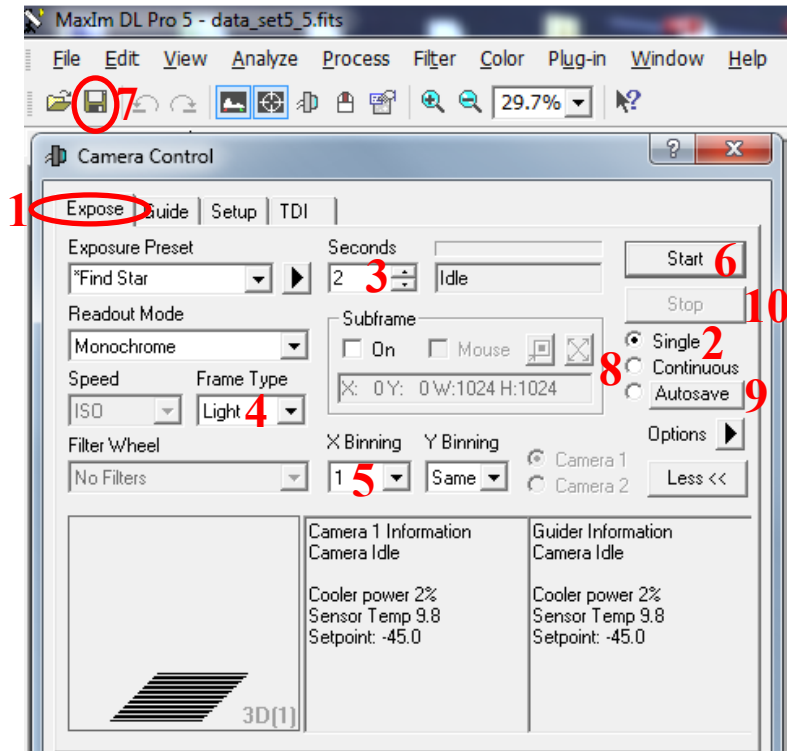
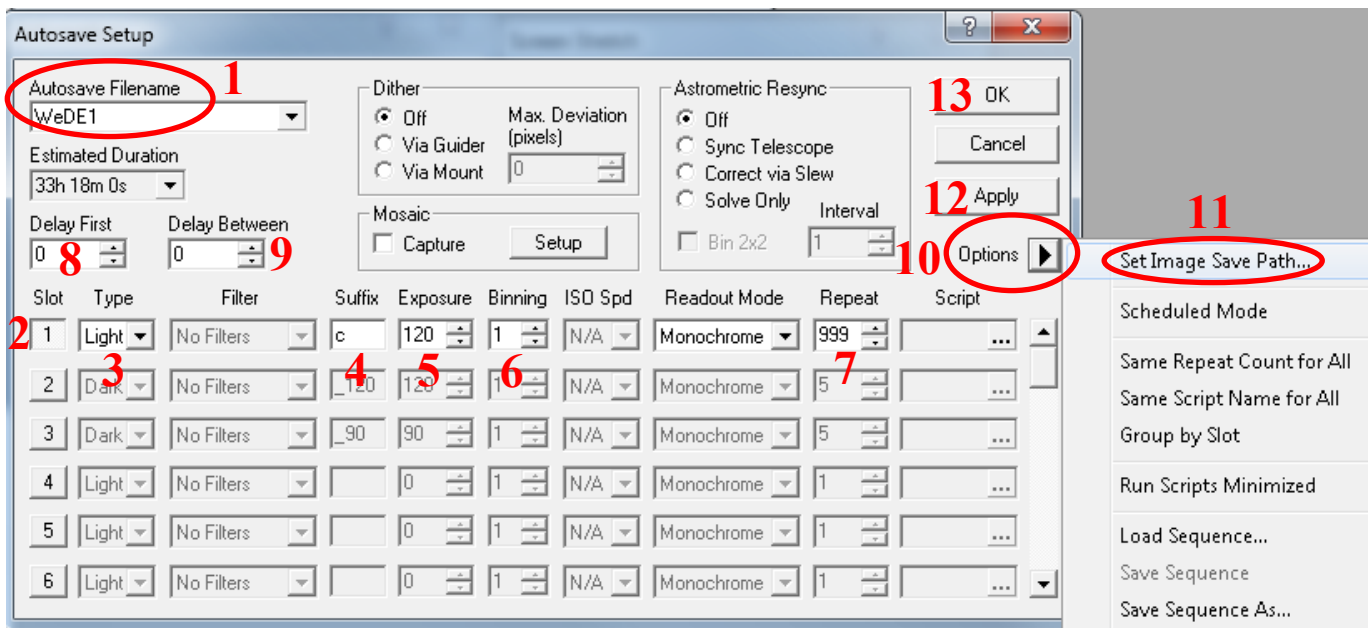

Fig. 5.10. The settings for various acquisition modes in MaxIm DL software.
Fig. 5.11. The “Autosave Setup” menu for observations with predefined settings in MaxIm DL.
In the camera control window (Fig. 5.10):
1. Select "Continuous" (Fig. 5.10 No 8).
3. Press "Stop" to stop (Fig. 5.10 No 10).
1. Click on the "Autosave" button (Fig. 5.10 No 9). The "Autosave Setup" window opens (Fig. 5.11).
2. Type in the desired filename (Fig. 5.11 No 1). This will be included in the names of all images.
- In the “Autosave Setup” window press “Apply” (Fig. 5.11 No 12) and then “OK” (Fig. 5.11 No 13). The “Autosave Setup” window closes.
- In the “Expose” menu press “Start” (Fig. 5.10 No 6).
- If you want to interrupt the automatic acquisition press “Stop” (Fig. 5.10 No 10).